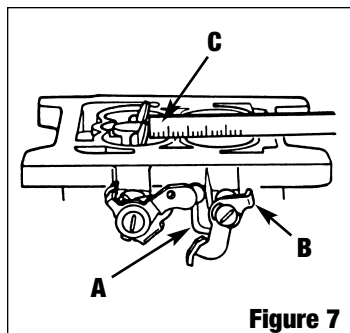

Figure 7
- **SECONDARY THROTTLE VALVE OPENING (FIG. 7)**